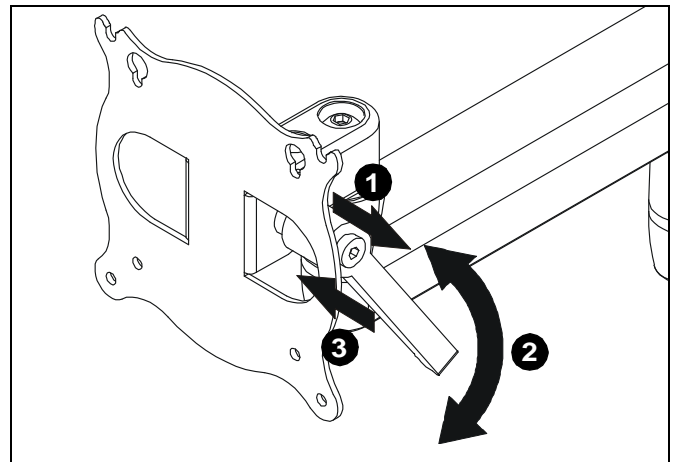

Figure 6
1. Pull entire handle out away from mount to allow handle position to be adjusted to be prior to pitch adjustment. (See Figure 6)
2. Adjust handle to desired position. (See Figure 6)
3. Push entire handle back towards mount prior to pitch adjustment. (See Figure 6)